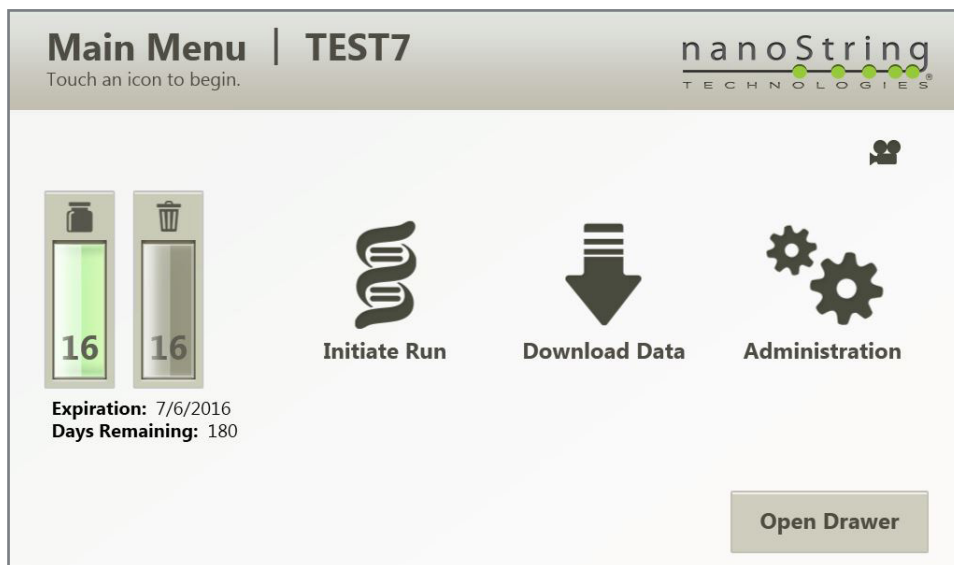

FIGURE 6.3 The Main Menu.
1. To begin a new run, select **Initiate Run** on the Main Menu (**FIGURE 6.3**).